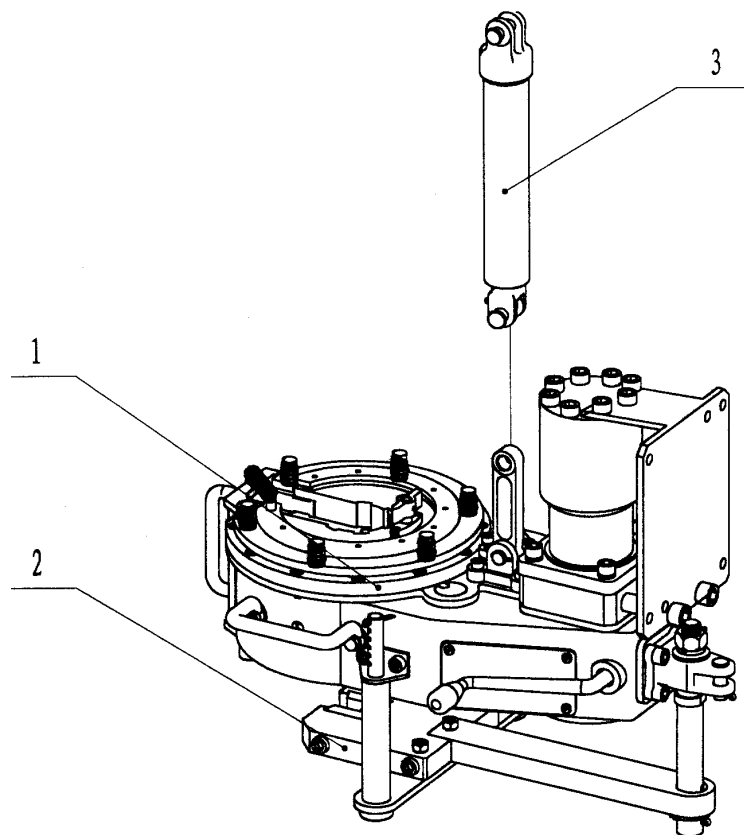

Fig1
- D. Pressure hoses:Power supply hose line marked "P",the return hose line marked "O" (See Figure 1). The hose's internal diameter could not less than $\Phi 20$ mm.
Figure 1 is the figure of hydraulic circuit of power tong
8.1 ASSEMBLY (Fig1, Table 1)
8.1 ASSEMBLY (Fig 1, Table 1)